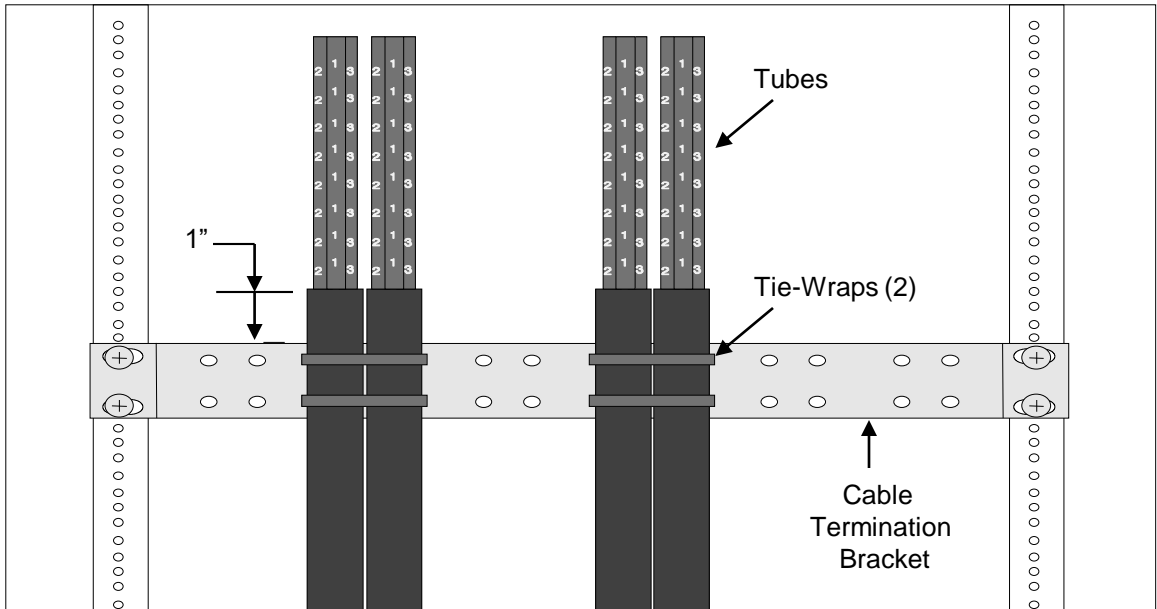

Figure 3
6.7 Secure tube cables with two (2) tie-wraps or similar) threaded through holes provided in Cable Termination Bracket. **See Fig. 3.**